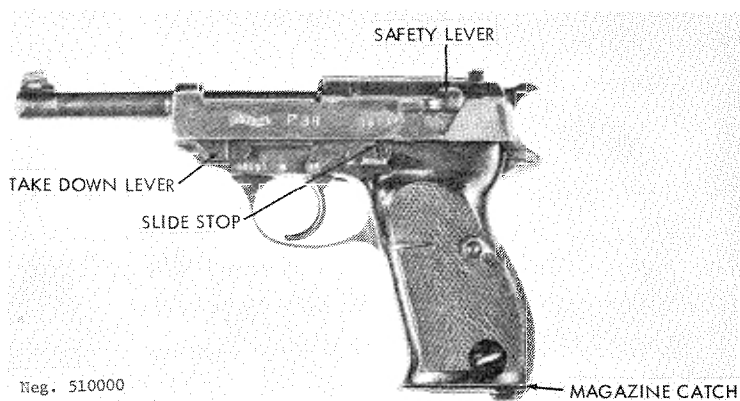

Figure 1. 9-mm P1 pistol.
a. The 9-mm Pistole P1 (fig 1) is the standard side arm of the West German Army. Commercial versions are used by other armies. The P1, descended from the World War II vintage German P-38, differs from the older pistol in its lightweight dural receiver and redesigned firing pin. The latter is not interchangeable with the older P-38 firing pin. The P1 and its civilian version, the P-38, both bear identical manufacturers' markings on the slide: the word "Walther" enclosed in a banner followed by the legend "Carl Walther Waffenfabrik Ulm/Do." Below this a second line reads "P1 Cal 9-mm" for West German Army weapons, or "P-38 Cal 9-mm" for commercial weapons. World War II vintage P-38's carry a code symbol such as "ac", "byf", "cyq", or "sw" with a two-digit date on the slide.
a. Remove the magazine by pressing the magazine catch (fig 1) rearward, away from the magazine, and withdrawing the magazine. If open, the slide can be closed either by pulling it slightly rearward and releasing it, or by pressing the slide stop (fig 1) downward.
c. Insert the magazine into the pistol until the magazine catch (fig 1) snaps into place.
e. If desired, set the pistol on safe by rotating the safety lever (fig 1) downward as far as possible. If the hammer is cocked, it will snap forward, but the pistol will not fire.
a. Clear the weapon (para 3g), but do not insert the magazine. Leave the safety lever set on safe. Retract the slide, and lock it to the rear with the slide stop (para 3g). Rotate the takedown lever (fig 1) downward. Pull the slide slightly rearward (to release the slide stop); then ease it forward. The hammer will fall as the slide aligns with the receiver; continue to move the slide forward until both it and the barrel are free of the receiver.